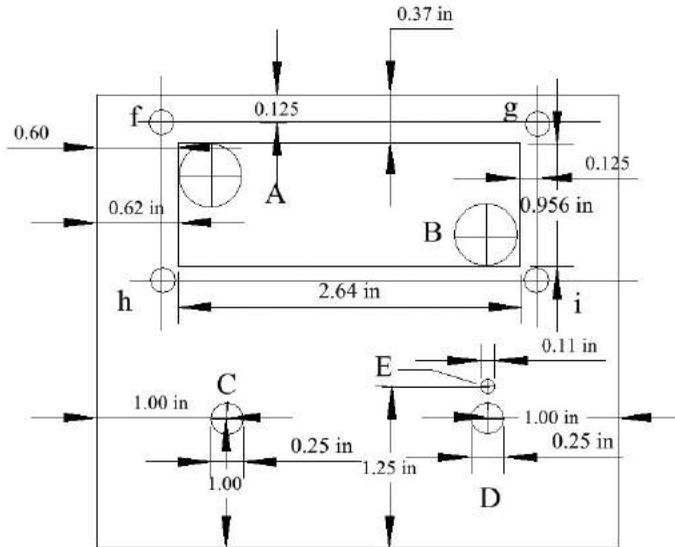

Figure 3-9: Sloping face of the Regulated Power Supply enclosure
The templates for this project are shown in Figures 3-9 and 3-10, and they can be downloaded from <https://www.nostarch.com/arduino/playground/>.
1. Center punch and drill holes for the potentiometer, on-off switch (1/4 inches), and power indicator LED. See Figure 3-9 for the front panel dimensions.
2. Center punch and drill the hole for the power input jack in the rear of the panel (see Figure 3-9).
4. Carefully measure and mark the cut out for the LCD display, as shown in Figure 3-9. Center punch and drill 1/2-inch holes in the corners of the LCD screen area to help initiate saw cutting. You can eyeball this based on the diagram in Figure 3-9 or download a PDF file of the template. Either trace the image onto your enclosure with carbon paper or simply mark the corners with a center punch and connect the punch marks.